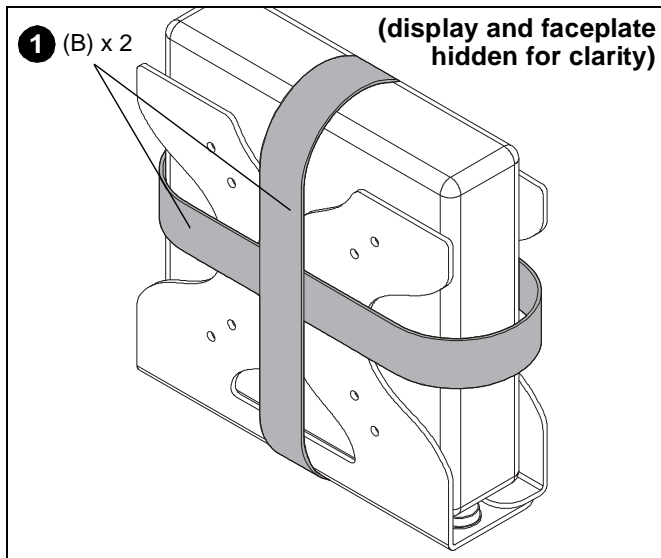

Figure 9
1. Wrap straps (B) around mount frame (A) to provide further security. (See Figure 9)